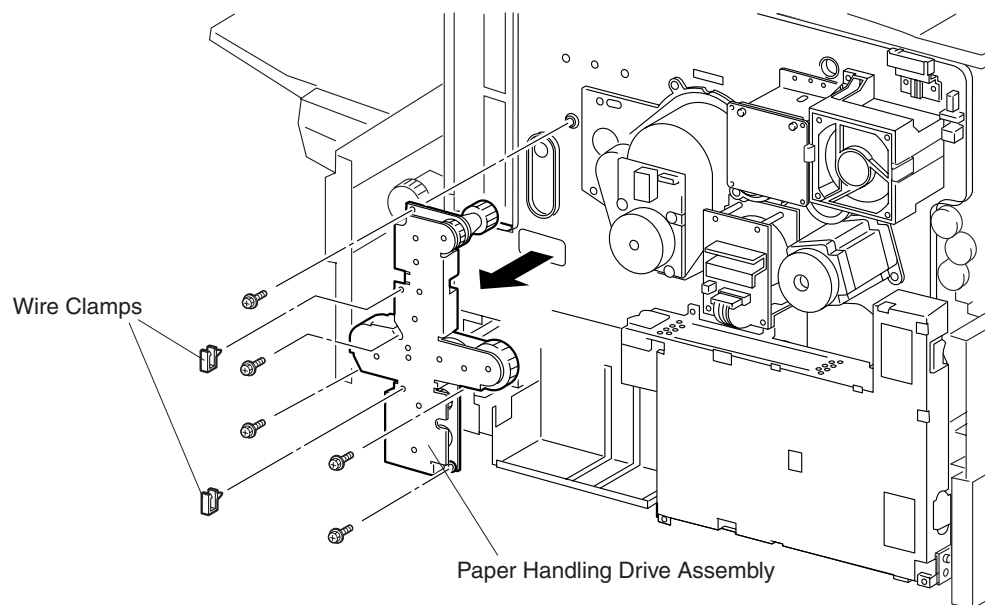

Figure 2
4. Remove the five screws securing the Paper Handling Drive Assembly to the printer frame and remove the Assembly (Figure 2).